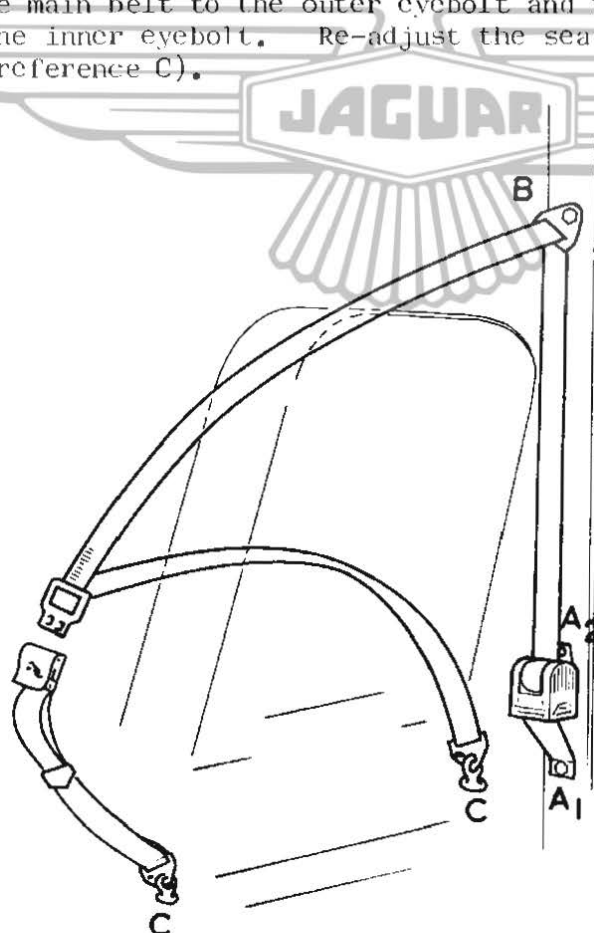

FIG.1 THE SEAT BELT FITTED
- (10) Place the wavy washer on the small diameter of the mounting bush supplied in the kit and insert the bush into the hole in the strap top anchor plate from the back. Pass the large plated setscrew with plain washer through the plate and bush.
- (11) Fit the bush in the hole in the wood capping and fully tighten the setscrew into the tapped boss on the pillar.
- (12) Slide the seat forward and withdraw the two black plastic plugs from the floor between the seat runners. Insert the two eyebolts and tighten fully.
- (13) Attach the main belt to the outer eyebolt and the short (buckle) belt to the inner eyebolt. Re-adjust the seat position. (Fig. 1, reference C).